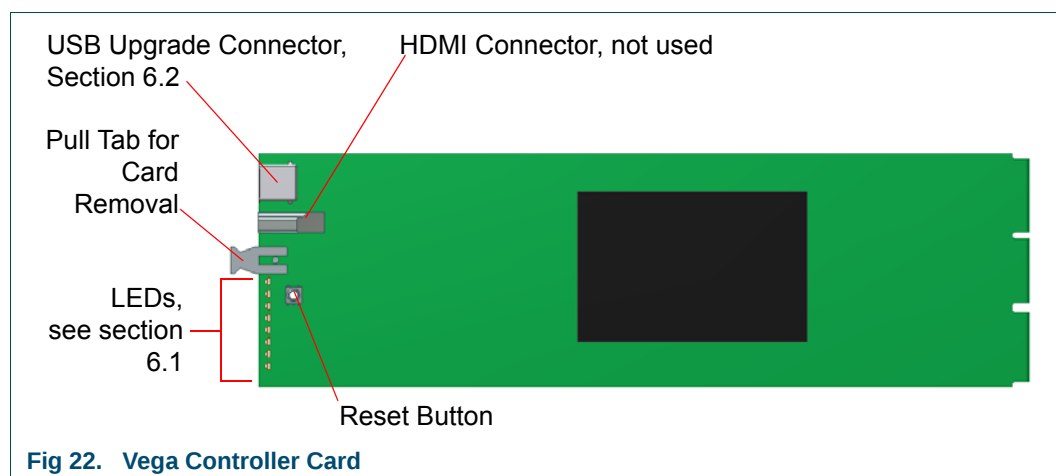

Fig 22. Vega Controller Card
1. To remove a controller card from the router hold the plastic pull tab on the front of the card (Figure 22) and carefully pull the card out of the frame.